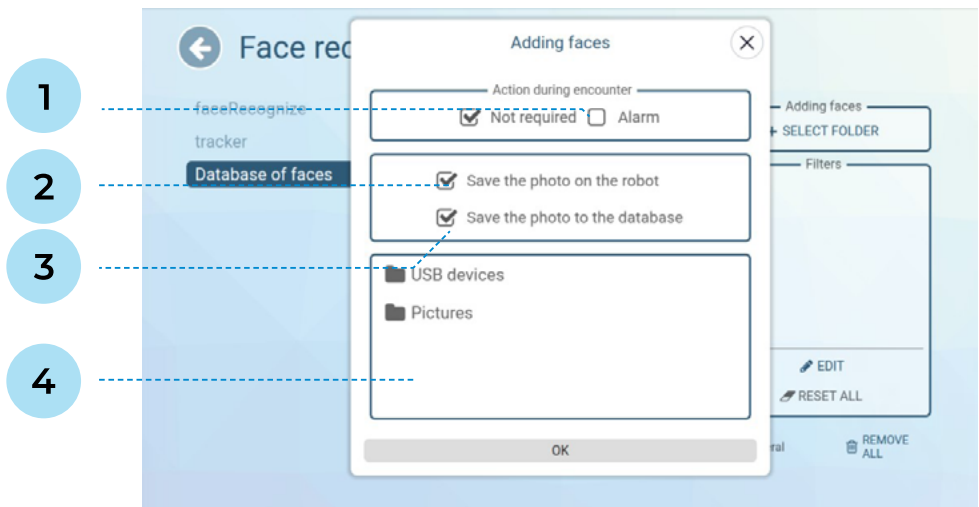

Fig. 6.17. Adding photos to the face database
- **Select a folder** — here you can upload photos of people so that the robot knows them in advance and the person does not have to go through the introduction procedure when meeting the robot (Fig. 6.17).